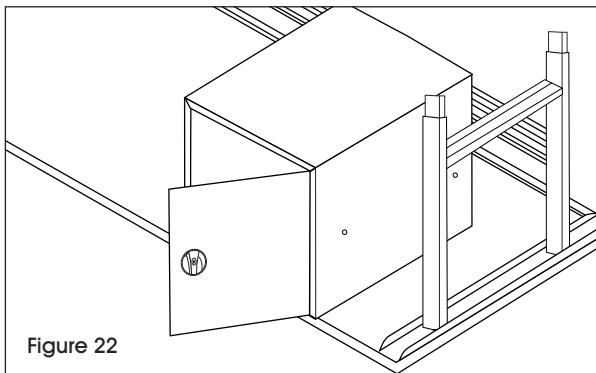

Figure 22
3. Secure cabinet to underside of top, using four #14-3/4" hex slotted wood screws. (See Figure 22)